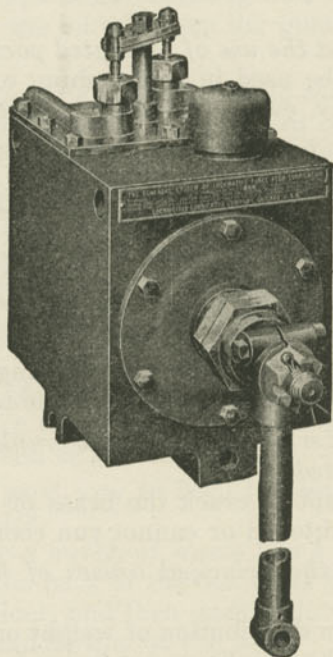

Fig. 262. Schlacks Lubricator.
A. As shown in Fig. 262, there is attached to either valve chamber a reservoir casting containing two oil pumps, one for each side of the engine, and forcing oil to all desired points at every rotation of the drivers. There is a lever operated by a link connected to a part of the valve gear, and which operates a ratchet that turns a cam shaft in the oil reservoir, which operates the pumps. A steam pipe with a check valve to control the pressure of the steam that heats the oil, keeps it at constant temperature, and a drop of oil enters the steam at each pump stroke and is carried to the valve chest, eventually lubricating the cylinders.